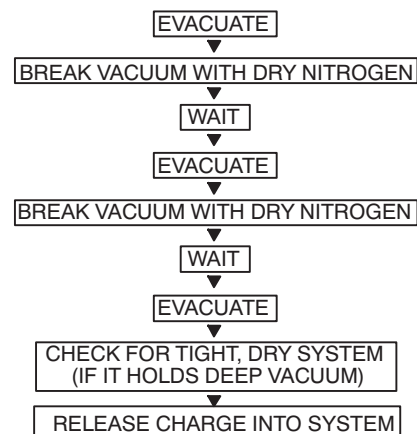

Fig. 18 —Triple Evacuation Method
Proceed as follows (see Fig. 18).
5. Repeat this procedure as indicated in Fig. 18. The system will then be free of any contaminants and water vapor.